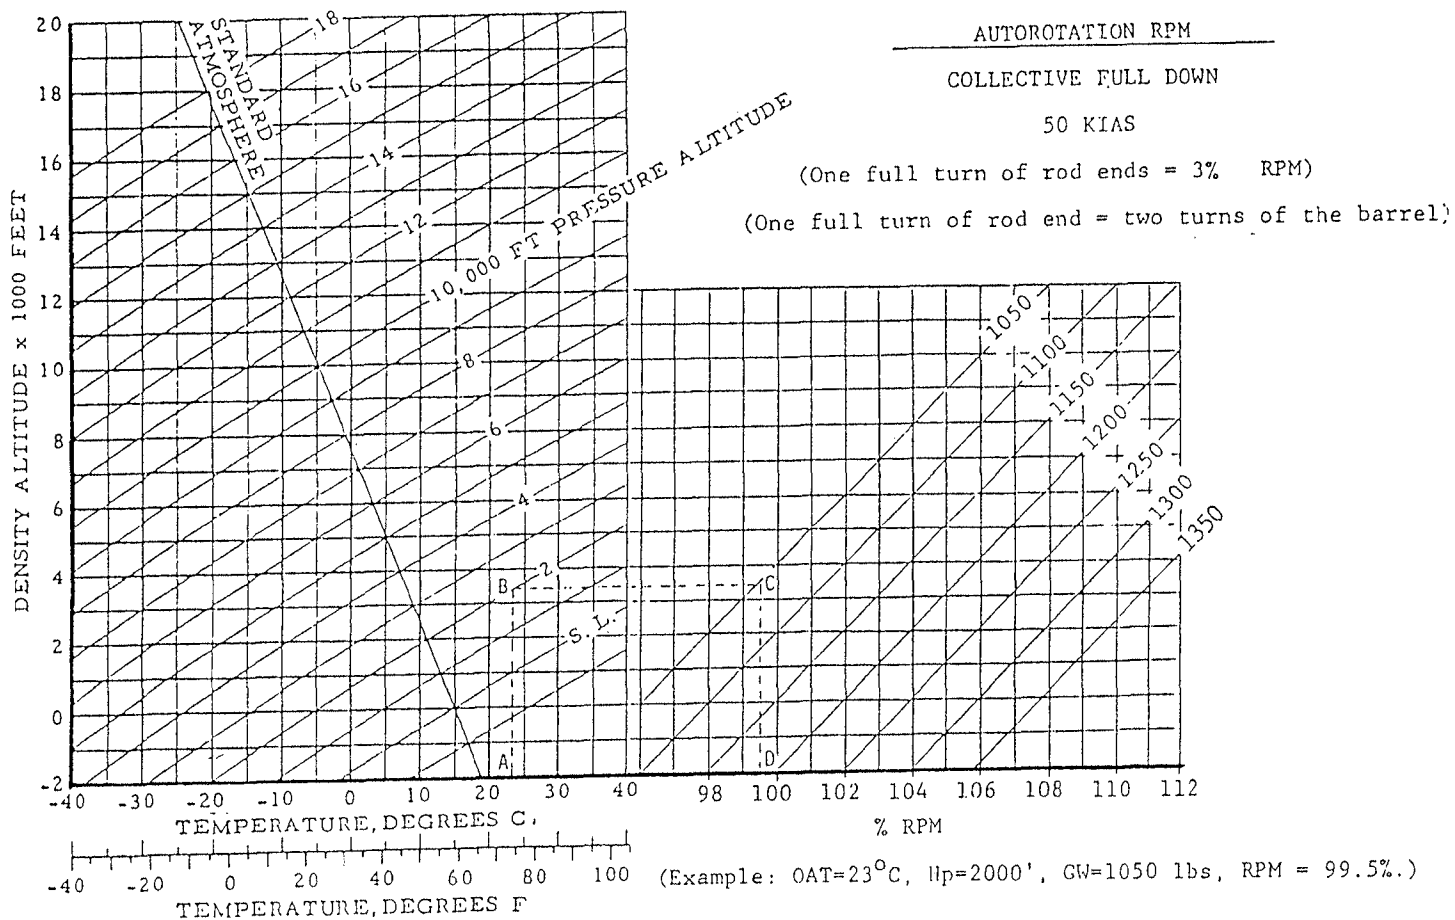

FIGURE 10-15
3. After each flight, refer to figure 10-15 and determine the following:
- d. Make adjustment to the main rotor pitch links as required to obtain test autorotation RPM within  $\pm 1\%$  of chart RPM (see Figure 10-15).